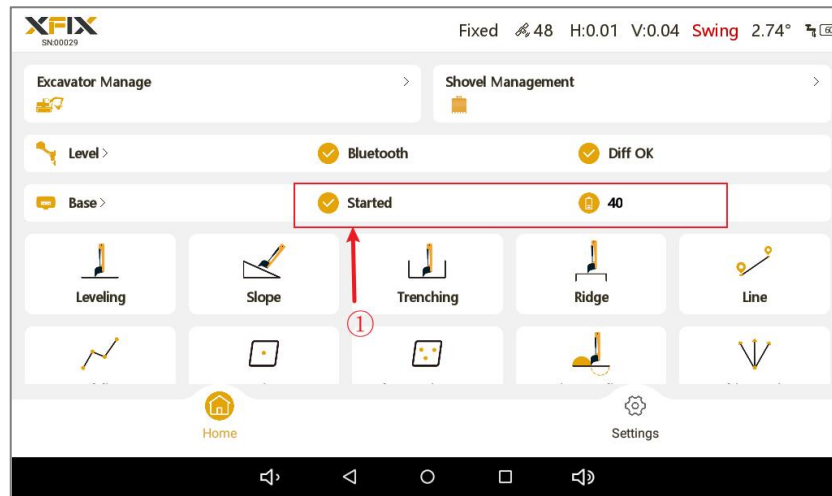
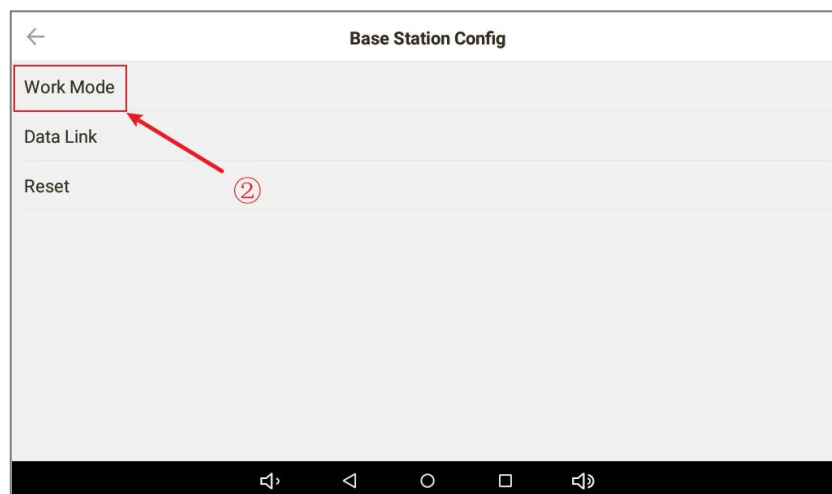

Figure 3-5
Figure 3-6
- ③ Start the base station: Tap the Base Station interface, as shown in Figure 3-5, to enter the 'Base Station Config' screen, as shown in Figure 3-6. Then tap 'Work Mode'.